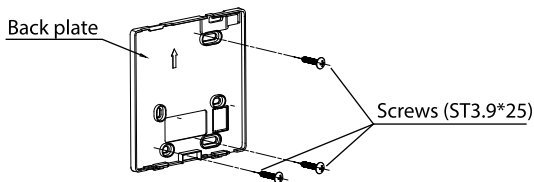

Figure 3.
- Fasten the backing plate on the wall with the 3 screws (ST3.9*25) and plugs (Figure 3) provided.